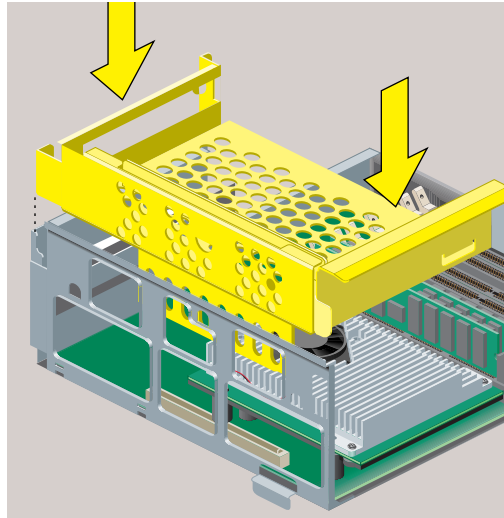

Figure 2-40 Replacing the R10000 PCI Tray in the System Module
- Lower the PCI tray, engaging it on the tab on the side of the system module (Figure 2-40).